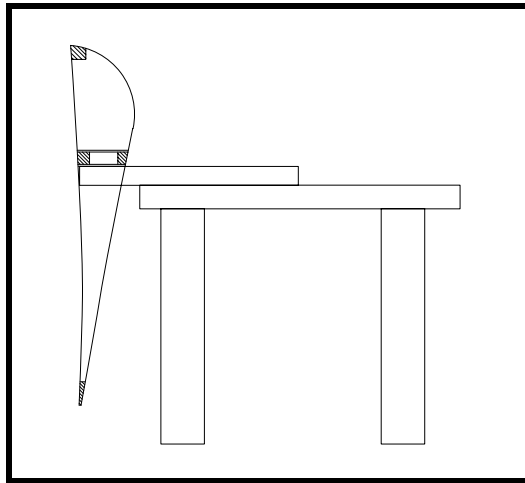

Figure 16
- ❑ Turn the aileron/flap assembly around so that its lower surface faces away from the jig table. See Figure 16. Clamp in place and check the alignment. It is particularly important that you make sure that the spar is not bowed—lower or higher in the middle—since the next step will stiffen the assembly in that direction.